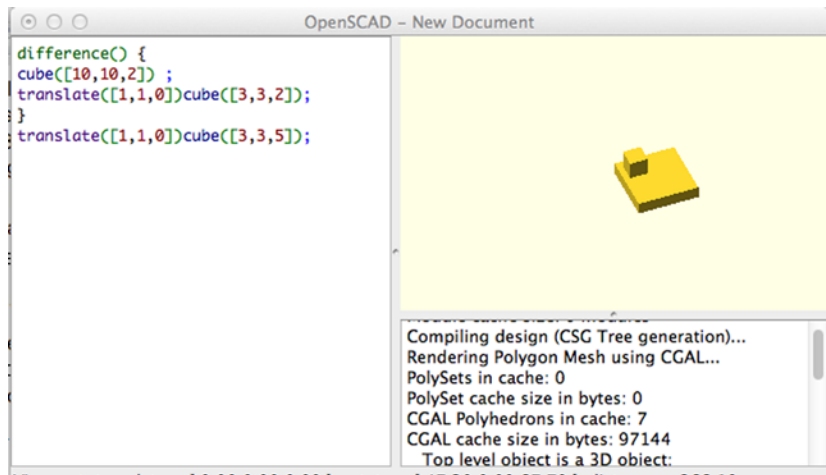

Figure 8-31. OpenSCAD code for this example
- In OpenSCAD, for example, if you plan ahead that you are developing a file for two extruders, you can add ! in front of a structure to include only the structures included in that structure, and * at the front to exclude a particular structure. Figure 8-31 shows this code in *OpenSCAD* before anything is separated out for two extruders.